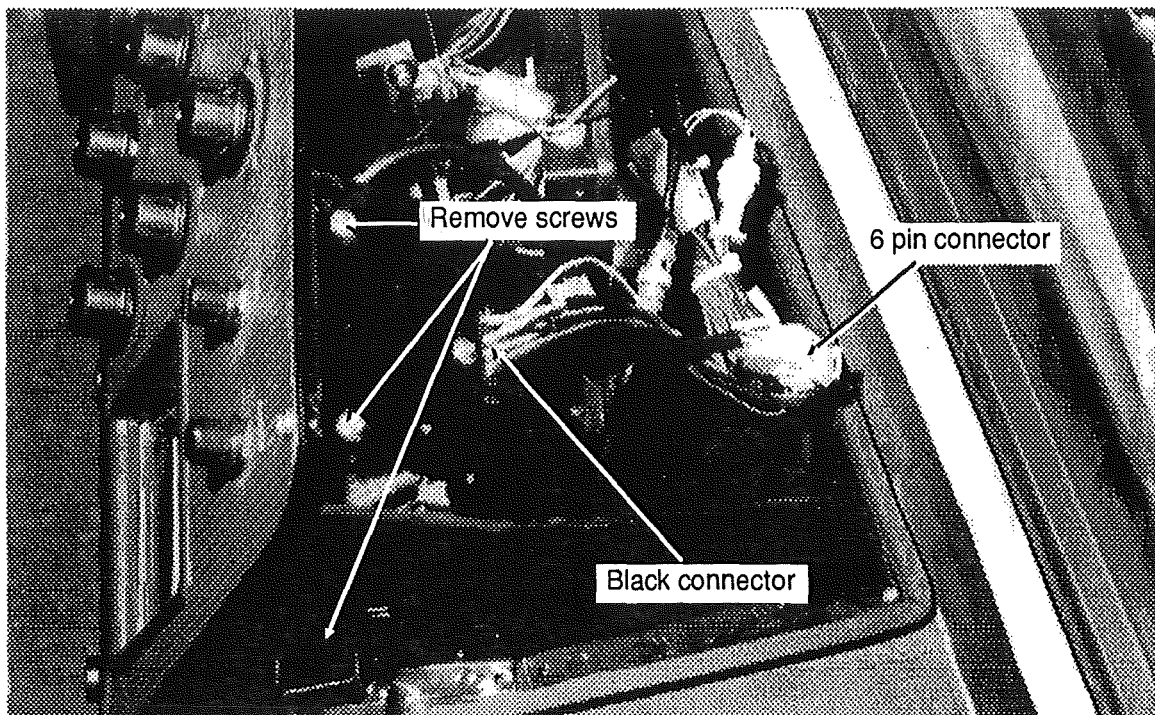

FIG. 8
3. Disconnect the black connector from the top of monitor (see fig. 8).
5. Remove both screws on top of monitor bracket, then remove both screws, one on each side of monitor (see fig. 8).